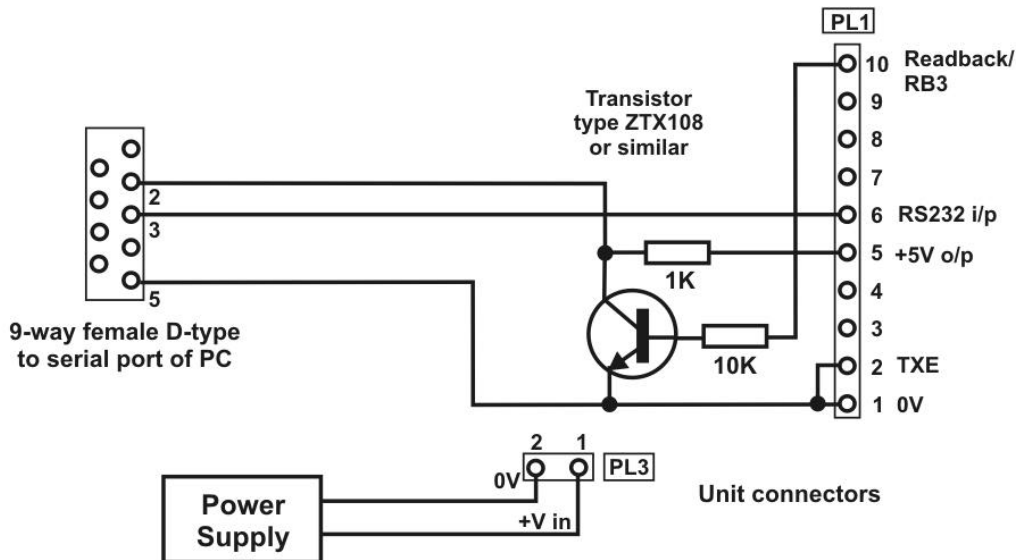

Figure 2 Programming Adaptor
The software supplied with the ST800 transmitter is the ST800PRG.exe program. The software can be run on a PC with the serial port connected to PL1 of the ST800 transmitter via a suitable adaptor as shown in Figure 2. If the read-back function is desired, then PL1 pin 10 of the transmitter must be connected to pin 2 of the PC serial port via a buffer circuit. A 1k pull-up resistor to +5V must also be provided as shown.
3. Function F5 is only enabled when a read-back programming adaptor is used, (refer to Figure 2). This function displays the current frequency table of the connected ST800 transmitter.